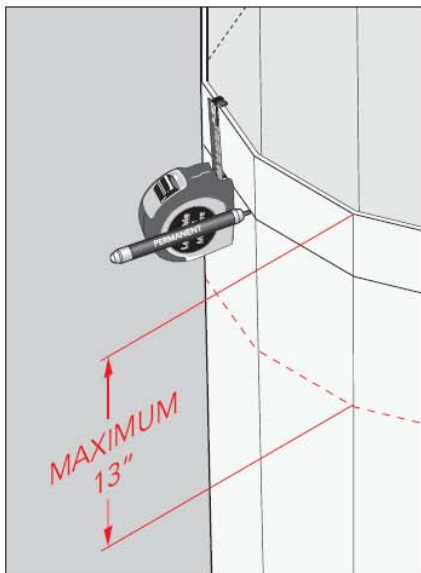

**Figure 3**
4. The top of the sump base must be 22" below the string line set at finished manhole grade level. This will provide sufficient clearance for both the OPW / Fibrelite top hat and the water shroud platform. See Figure 3.
10. Use a level to set the sump base on collar. Make sure the sump will be level to finished grade. Ensure the 22" dimension in Figure 3 is correct.